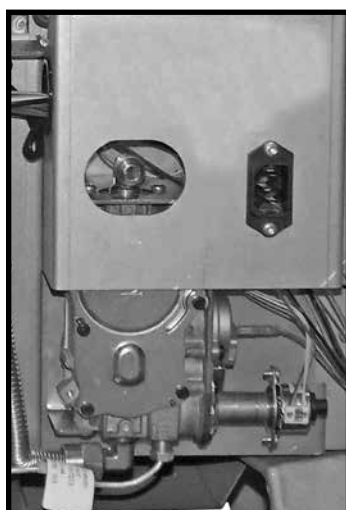

Figure 71: Control valve location.
1. Remove back panel and locate the valve as seen in Figure 71.